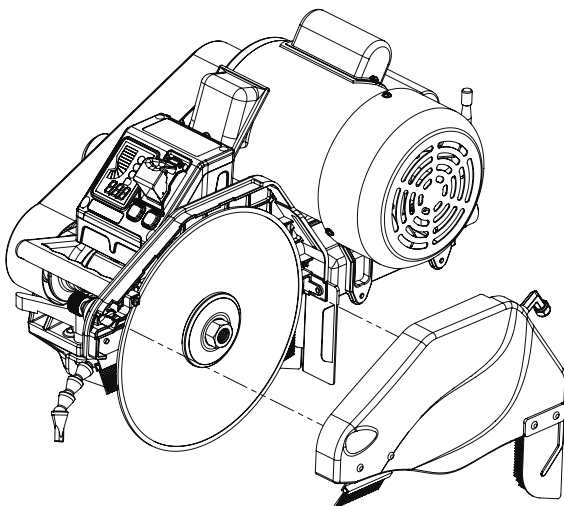

figure 18
1. Remove the outer blade guard. (see **figure 18**)